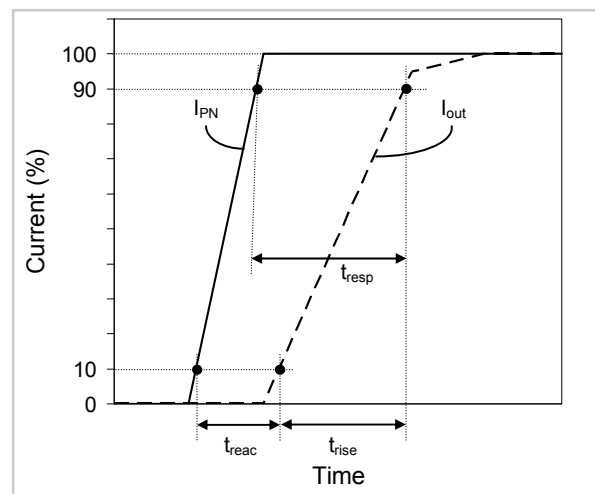

Fig. 3: Definition of reaction time ( $t_{reac}$ ), rise time ( $t_{rise}$ ) and response time ( $t_{resp}$ ).
2)  $I_P = I_{PN}$  with  $di/dt$  of 100 A/ $\mu$ s. See Fig. 3.